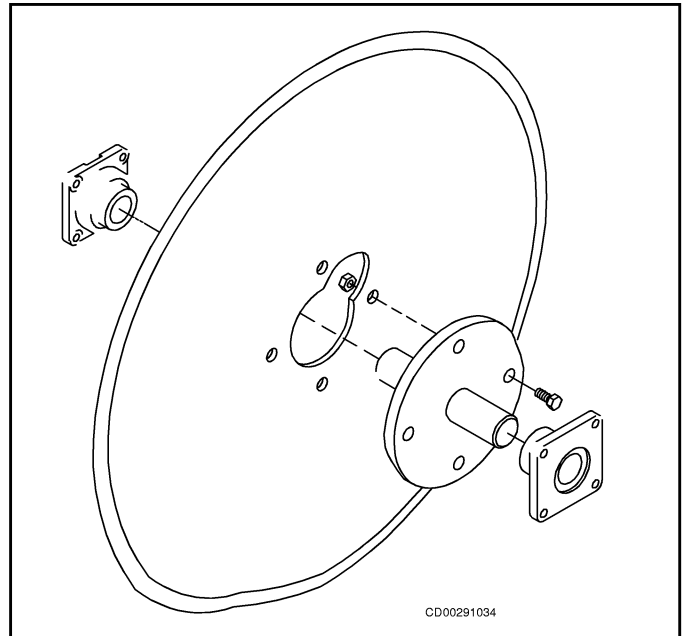

Figure 26 Mounting Coultter Disc
1. Fasten hub assembly to disc, using 3/8 x 1-1/4" hex bolts, lock washers, and hex nuts as shown in Figure 26.